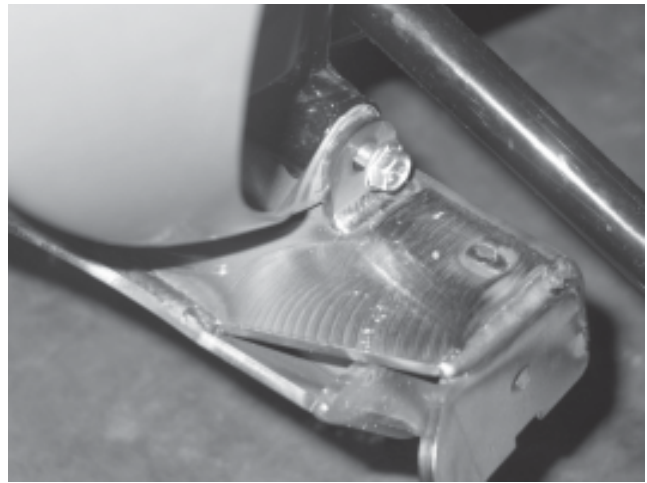

Figure 11
- Place the plow mount under the vehicle such that the tabs fit around the frame cross bar that the lower skid pan bolts thread into. Secure with two M8x20mm capscrews supplied and a 13mm socket (Figure 11). Do not tighten these.